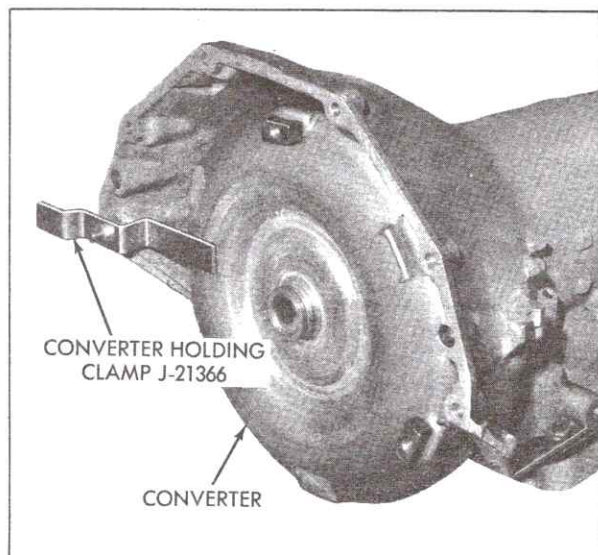

Fig. 7-28 Installing Converter Holding Clamp
21. Move transmission toward rear of car, disengaging transmission case from locating dowels on engine, install Converter Holding Clamp, J-21366, on front of transmission case, Fig. 7-28 and lower transmission from car.
1. Install converter on turbine shaft and install Converter Holding Clamp, J-21366, on front of transmission case, Fig. 7-28.